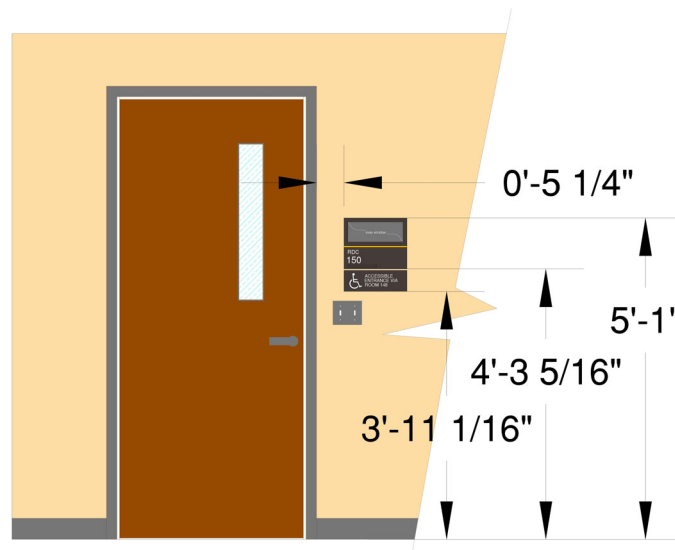

Figure 29.7
29.7. B2 or B3 type room identification sign installations, shall comply with figure 29.7.